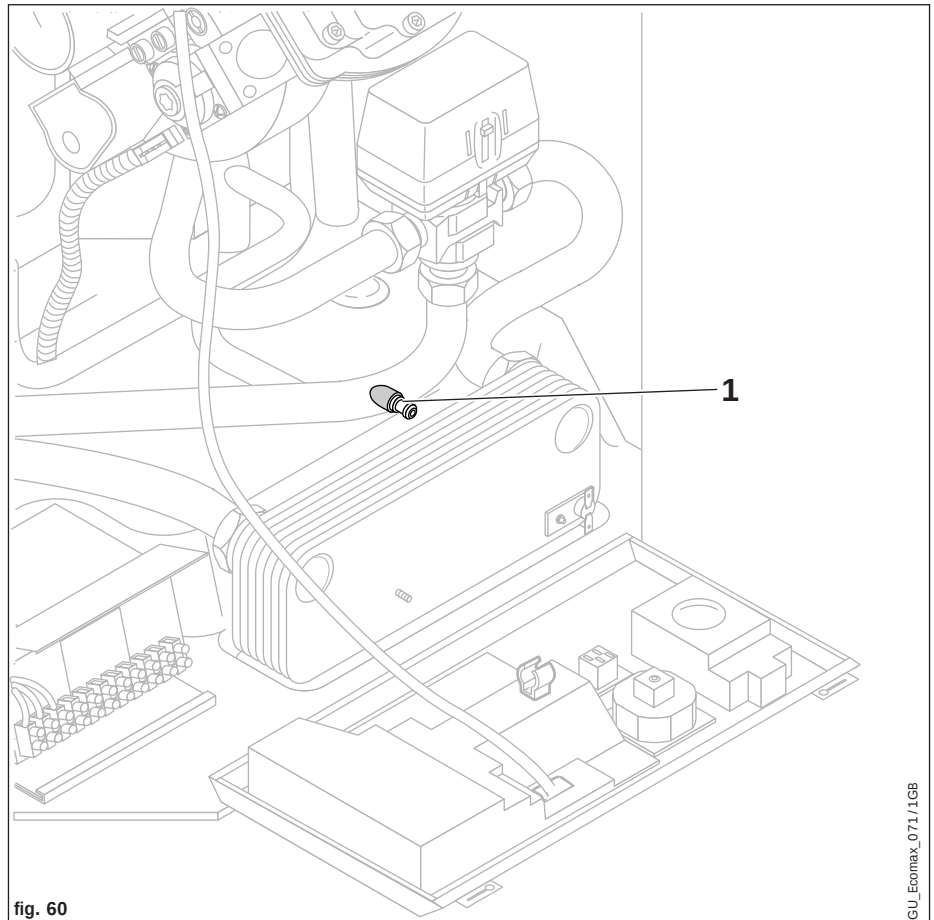

fig. 60
7.1.4 Releasing CH water pressure and draining boiler (fig. 60)